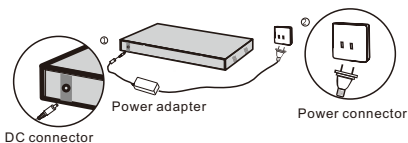

Fig.1.2.2 Power connection schematic diagram
2. First plug the DC output of the power adapter into the DC port of the switch, and then connect the power cable to AC100~240V, 50~60Hz, see Fig. 1.2.2.